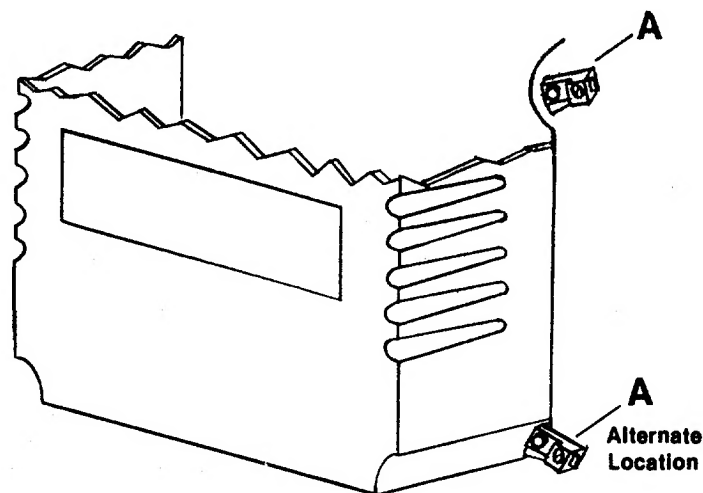

FIGURE 1
Make sure that generator is grounded to prevent accidental shock. A special grounding lug (A) Figure 1, is provided for this purpose.